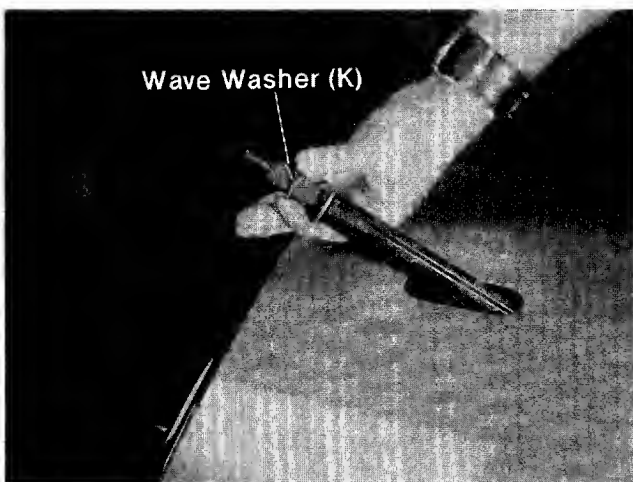

FIGURE 8.
5. Place wave washer (K), steering wheel (E), belleville washer (J), over end of steering shaft and secure with hex nut (I) using a 1/2" wrench. See figures 8 and 9.